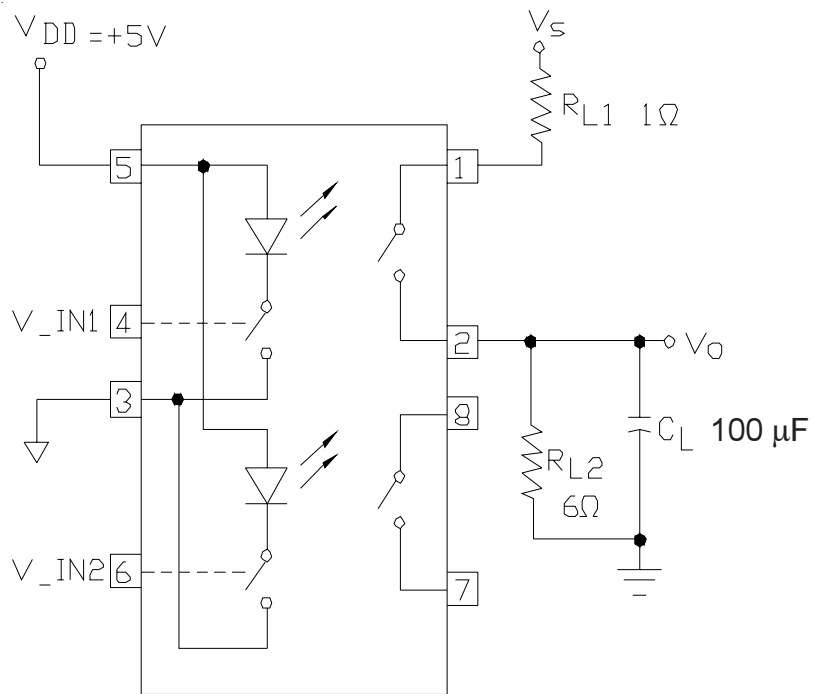

Fig 3: Switching Test Circuit (Only one channel shown)
- ① Specification is guaranteed by design
- ② Rise and fall times are controlled internally
- ③ Inputs protected for $V_{IN} < 1.0V$ and $V_{IN} > 7.5V$
- ④ Optically coupled Solid State Relays (SSRs) have relatively slow turn on and turn off times. Care must be taken to insure that transient currents do not cause violation of SOA. If transient conditions are present, IR recommends a complete simulation to be performed by the end user to insure compliance with SOA requirements as specified in the IRHNJ57130 data sheet
- ⑤ While the SSR design meets the design requirements specified in MIL-PRF-38534, the end user is responsible for product derating, as required for the application
- ⑥ Reference Figures 3 & 4 for Switching Test Circuits and Wave Form
- ⑦ Input Supply voltage shall not exceed 5.25V @ $T_c \geq 70^\circ C$
- ⑧ Total Dose Irradiation with Input Bias. 10mA I_{DD} applied and $V_{DS} = 0$ during Irradiation
- ⑨ Total Dose Irradiation with Output Bias. 80 Volts V_{DS} applied and $I_{DD} = 0$ during Irradiation
- ⑩ International Rectifier does not currently have a DSCC certified Radiation Hardness Assurance Program